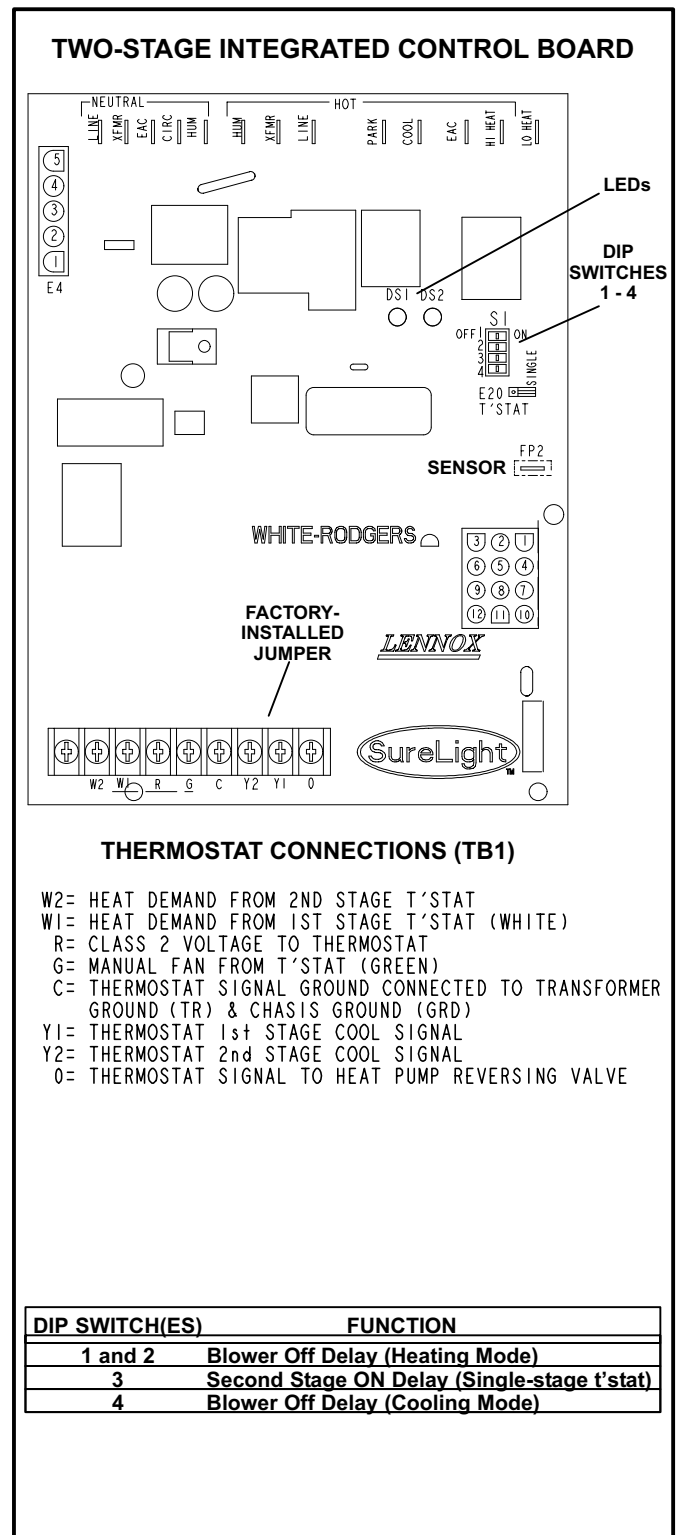

FIGURE 20
All GHR32Q units are equipped with the Lennox two-stage integrated SureLight control board. The system consists of a ignition control board (figure 20 with control terminal designations in tables 12, 13 and 14) and ignitor (figure 8). The board and ignitor work in combination to ensure furnace ignition and ignitor durability. The board controls all major furnace operations. The board features two LED lights, DS1 and DS2 for troubleshooting. The board also has two accessory terminals rated at (1) one amp each. See table 15 for troubleshooting diagnostic codes.
The control can be utilized in two modes: SINGLE-STAGE thermostat or TWO-STAGE thermostat. The thermostat selection jumper E20, located just below dip switches 1 through 4 (figure 20), must be positioned for the particular application. The jumper is factory set on "TWO" for use with a two-stage thermostat with two stage heat. Re-position jumper to "SINGLE" for use with a single stage thermostat with two stage heat.
Two diagnostic LED'S are located on the two-stage integrated control board. See figure 20. These light flashes correspond with the codes detailed in table 15.
Diagnostic LEDs are labeled DS1 and DS2. See figure 20 for location of diagnostic LEDs.